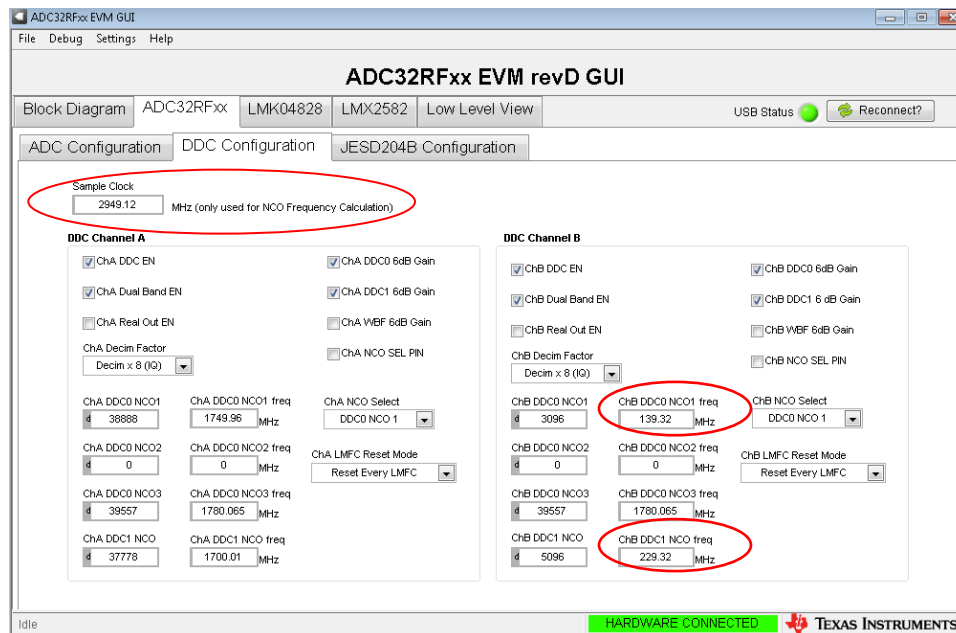
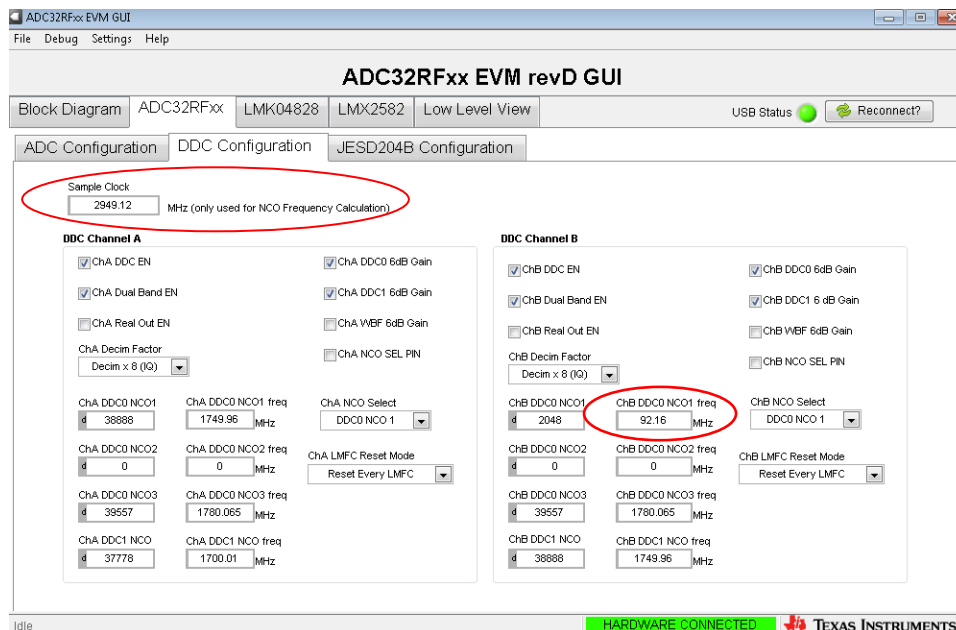

Figure 18. ADC32RFxx EVM GUI ADC Tab – Midband Demo
Figure 19. ADC32RFxx EVM GUI ADC Tab – Wideband Demo
- For midband demo, enter 139.32 in the box for Ch B DDC0 NCO1 frequency and enter 229.32 in the box for CHB DDC1 NCO frequency, see Figure 18. For wideband demo, enter 92.16 in the box for Ch B DDC0 NCO1 frequency, see Figure 19.